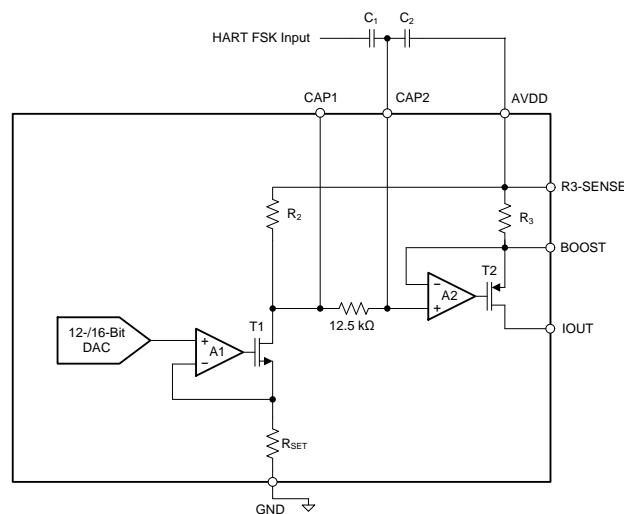

Figure 60. Implementing HART on IOOUT Using the CAP2 Terminal
The first method of implementing HART is to couple the signal through the CAP2 pin, as shown in Figure 60. Note that this pin is only available in the 40-pin VQFN package
In Figure 60, R_3 is nominally $40\ \Omega$, and R_2 is dependent on the current output range (set by the RANGE bits), described as follows:
When the input HART frequency is greater than the 3-dB frequency, the ac signal is seen at the plus input of amplifier A2 and is therefore seen across the 40- Ω resistor. To generate a 1-mA signal on the output therefore requires a 40-mV peak-to-peak signal on CAP2. Because most HART modems do not output a 40-mV signal, a capacitive divider is used in Figure 60 to attenuate the FSK signal from the modem. In Figure 60, the high-pass cutoff frequency is $1 / (2 \times \pi \times [R_2 + 12.5\ \text{k}\Omega] \times [C_1 + C_2])$. There is one disadvantage to this approach: if the AVDD supply is not clean, any ripple on it could couple into the part.
1. As illustrated in Figure 60, CAP2 is directly connected to the input of the final IOUT amplifier. Any noise or unwanted ac signal routed near the CAP1 and CAP2 terminals could capacitively couple onto internal nodes and affect IOUT. Therefore, it is important to avoid routing any digital or HART signal traces over the CAP1 and CAP2 traces.